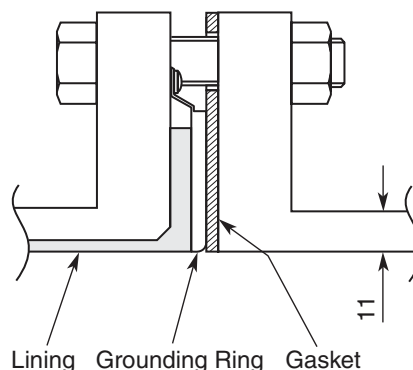

Figure 29. Installation on PVC Pipe with 316 ss Grounding Ring
1. Use this method to install the flowtube to the specified fastening torque. Install the flowtube as shown in Figure 29. The torque level for tightening the bolts is not related to the gasket material. See Table 3 for the appropriate torque. For the internal diameter of the gaskets, see Table 4.